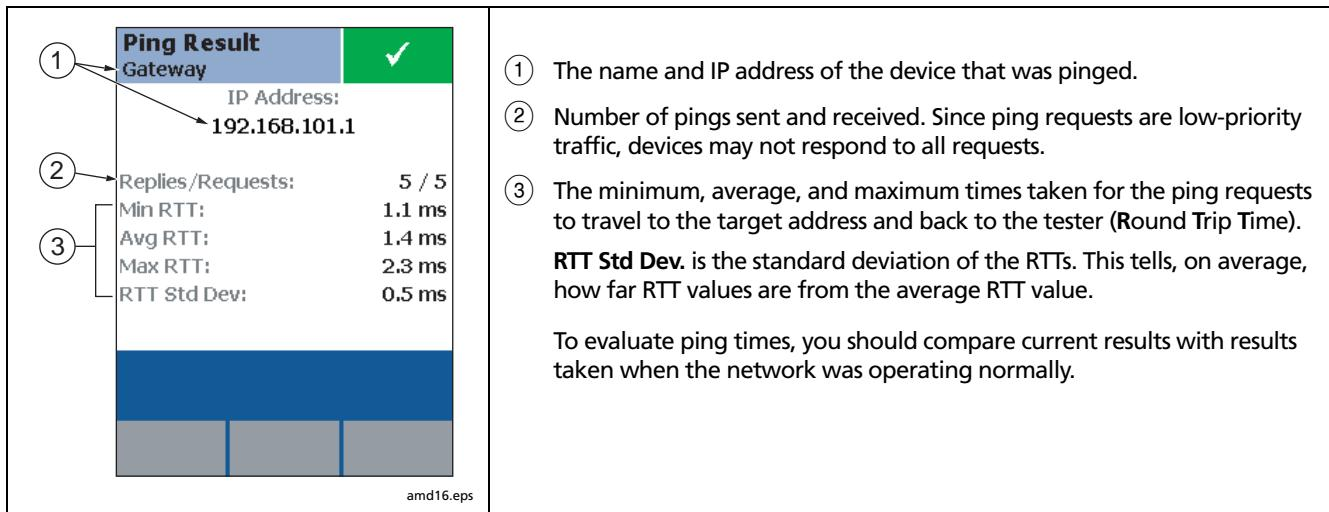

Figure 26. Ping Results Screen
- ⑤ Select **DTX Addr.** to see details, including the subnet mask.
- ⑥ Network addresses used during the test:
- To see ping results for the above devices, highlight a device; then press . See Figure 26.
- ⑦ <Target Address name>: appears if you use **Ping** to ping a device. See page 48.
- ⑧ See “Monitoring Network Traffic” on page 50 and “Blinking a Port Light” on page 50.
- ⑨ Press **Ping** to ping devices. See page 48.
- 6 To see ping details (Figure 26), highlight a device; then press .